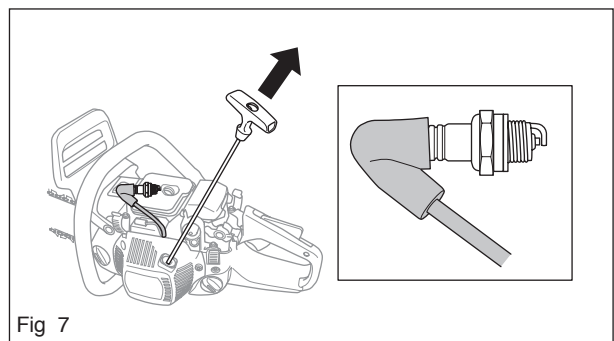

Fig 7
- If the test spark plug produces a spark the ignition module is OK. (see figure 7)